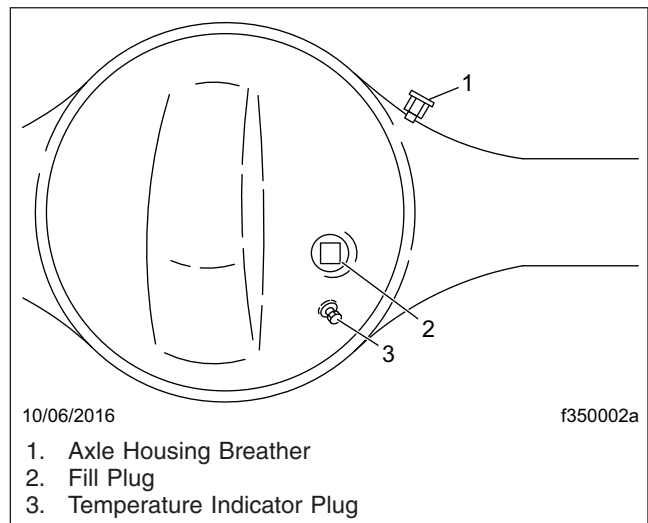

Fig. 8, Dana Spicer Axle Housing Breather
3. Clean the oil fill plug and the area surrounding it; see **Fig. 8**. Remove the plug from the fill hole (or standpipe, if installed in the oil fill hole).
6. Check the axle housing breather. Make sure that it is unclogged and free from corrosion. See **Fig. 8**. If the breather is plugged or damaged, clean or replace it as needed.